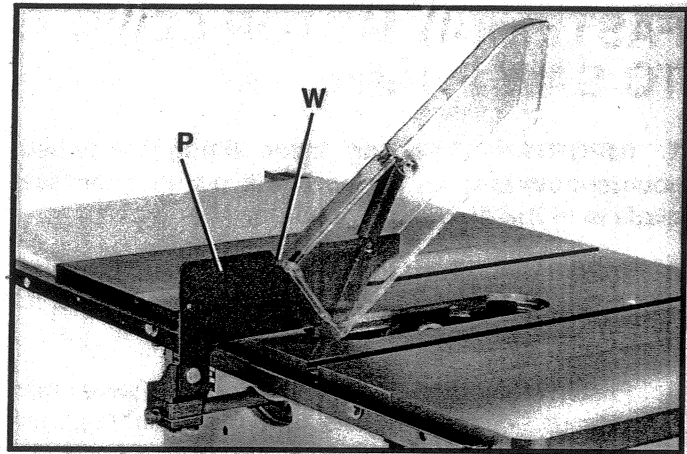

Fig. 44
10. **IMPORTANT:** The splitter (P) Fig. 44, features a notch (W) cut into the top edge. Simply raise the front of the clear blade guard (P) Fig. 44, until the rear edge of the guard slips into notch (W) of the splitter. This notch enables the blade guard to stay in the raised position and makes blade changing easier.